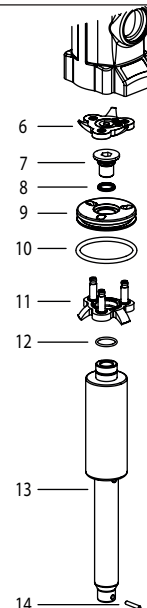

Fig. 6
- Unscrew the suction tube. Be careful not to damage O-ring (24).
- Remove pin (14) to separate the lower part of the pump (see fig. 6).
- Remove screws (22) and pull the air motor dolly to remove it. The air motor parts will be accessible.
- Replace parts (18) and (15) if required.